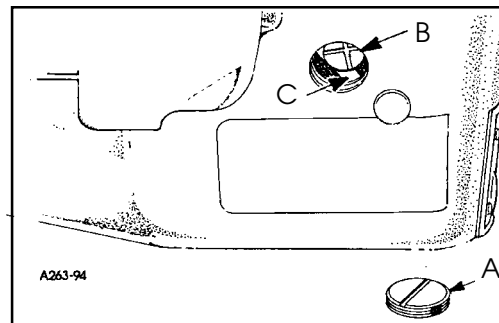

FIG. 12
When change in stitch length is required, remove large plug screw (A, Fig. 12). Loosen feed rocker driving link screw (B) in lever (C). Moving the feed rocker driving link up in the lever slot lengthens the stitch, moving it down, shortens the stitch. Retighten link screw (B) securely and replace plug screw (A).